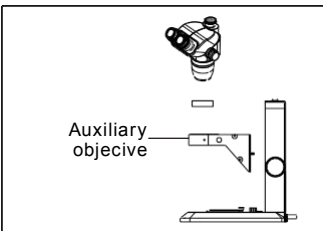

Fig.6
- (1) Connect the Auxiliary objective to the thread at the bottom of the microscope head.
- (2) 0.5x Auxiliary objective has long working distance. When use 0.5x auxiliary objective, release the lock screw on the arm by a 4mm Allen key, move the focus arm up and fixed in the up screw hole.(Fig 6)